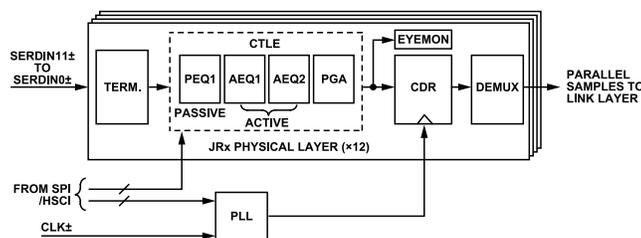

Figure 83. Deserializer Block Diagram
JESD204B/C data is input to the device at the physical interface (referred to as the deserializer) via the `SRXx_x` differential input pins. The class C-M physical layer has 12 identical channels on each side (A/B) of the device. Each channel consists of the termination, a continuous time linear equalizer (CTLE), a clock and data recovery (CDR) circuit, and a demultiplexer function, as shown in Figure 83.
**Figure 83** shows the four stages of the CTLE. The first stage is a passive equalizer (PEQ). The PEQ is configured to provide a filter with the inverse frequency response of the PCB channel. This conditions the signal and improves the performance of two active equalization stages (AEQ) that follow. The final stage is a programmable gain amplifier (PGA). The PGA is required since the DC gain of the equalization stages are less than one. The increased amplitude given by the PGA assists the Clock and Data Recovery (CDR) stage of the PHY recover the best phase for data capture.